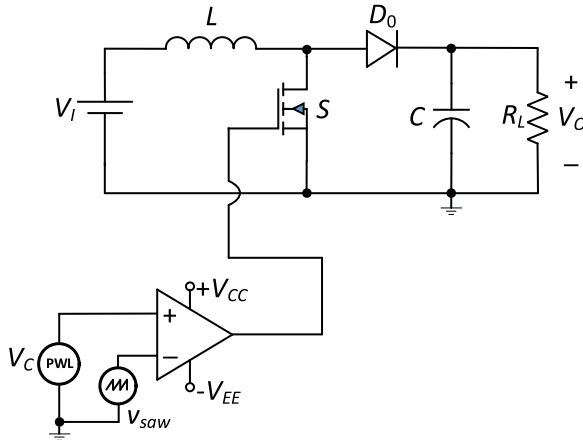

Figure 30.3 Circuit of the PWM boost dc–dc converter used to simulate step change in duty cycle.
1. Construct the circuit shown in Figure 30.3 on the circuit simulator.